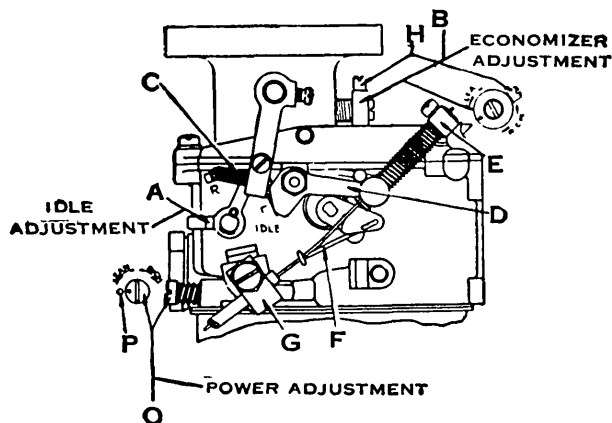

Fig. 12
**Control Hook-Up.**—The control hook-up should be made between the dash control tube clamp screw and clip (G, Fig. 12) and the dash control lever (D). The Dash Control should be so adjusted that when the button on the dash is pulled out in the "start" position the lever (D) is down as far as it will go. With the dash control in the "run" position adjust the clamp screw (E) on the wire on lever (D) so that the button sticks out on the dash about  $\frac{1}{8}$ " to be sure that lever (D) is as high as it will go. On the  $\frac{1}{4}$ " (Type U) be sure to thread control wire through the eye in choke wire (F) before running wire into dash control lever (D).
**Idling Adjustment.**—The motor should be thoroughly warmed up before adjusting the idle (A, Fig. 12). The spark and throttle should be fully retarded. Turning the end of lever (A) up leans the mixture and turning it down richens the mixture. The markings "R" and "L" on the body also show the rich and lean directions.
**Economy Adjustment.**—The factory setting of the economy adjustment (B, Fig. 12) is shown with the arrow mark on the adjustment in line with the arrow mark on the body. To lean the mixture turn the adjustment in the lean direction or counter-clockwise and to richen the mixture turn the adjustment in the rich direction or clockwise.
**Power Adjustment.**—The wide open throttle adjustment can be richened by turning power adjustment screw (O, Fig. 12) in (clockwise) and can be made leaner by turning it out (counter-clockwise).